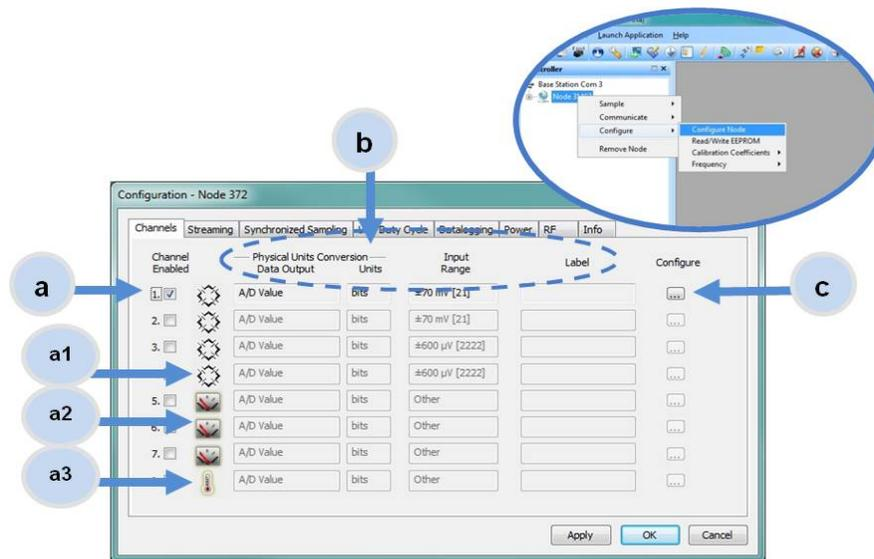

Figure 16 - Node Channels Menu
- a. **Channel Enabled:** indicates the sensor channel number. The check box is used to enable the channel and select it for sampling. The icon next to the check box describes the channel type inherent to the node being used. In the following example (*Figure 16 - Node Channels Menu*): a1) analog differential channel icon, a2) analog single ended channel icon, and a3) temperature channel icon.
2. To enter the channel configuration menu, select the Configure button as shown in Figure 16 - Node Channels Menu. The menu options available on the channel configuration page varies depending on the node and sensor type selected. This is an example with a V-Link®-LXRS®.